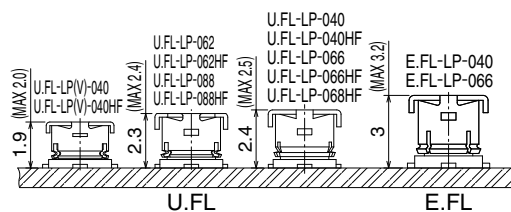

Fig.1
1. Nominal mated height of 1.9 or 2.3mm, 2.4mm (Max. 2.0 or 2.4mm, 2.5mm)(Fig.1)